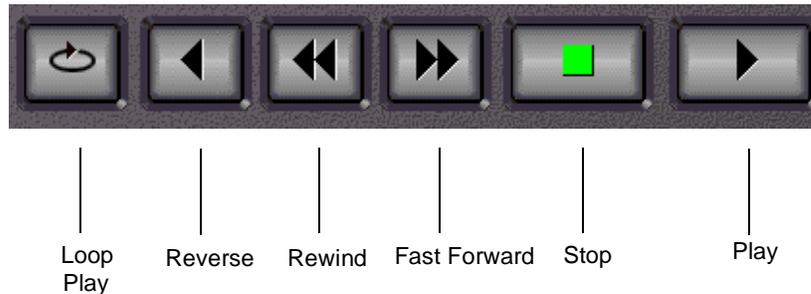

Figure 124. Transport controls
5. When you are done recording, click on the **Stop** button. (See Figure 124)